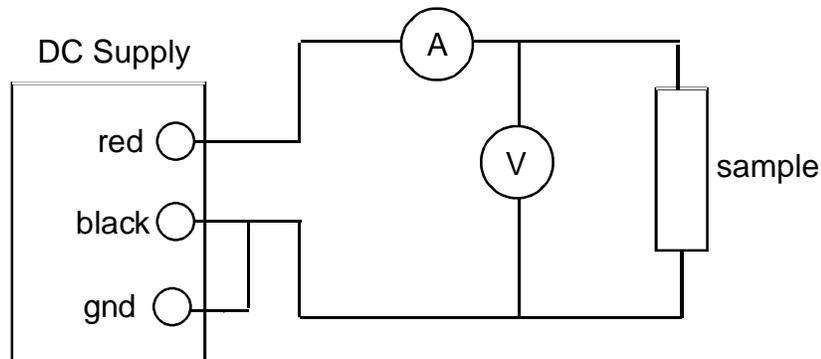

Fig.1. Circuit for measuring resistance
3. Connect the circuit shown in Fig. 1 below. Technical note: Meters can influence sensitive circuit measurements. Namely, the current through the A-meter